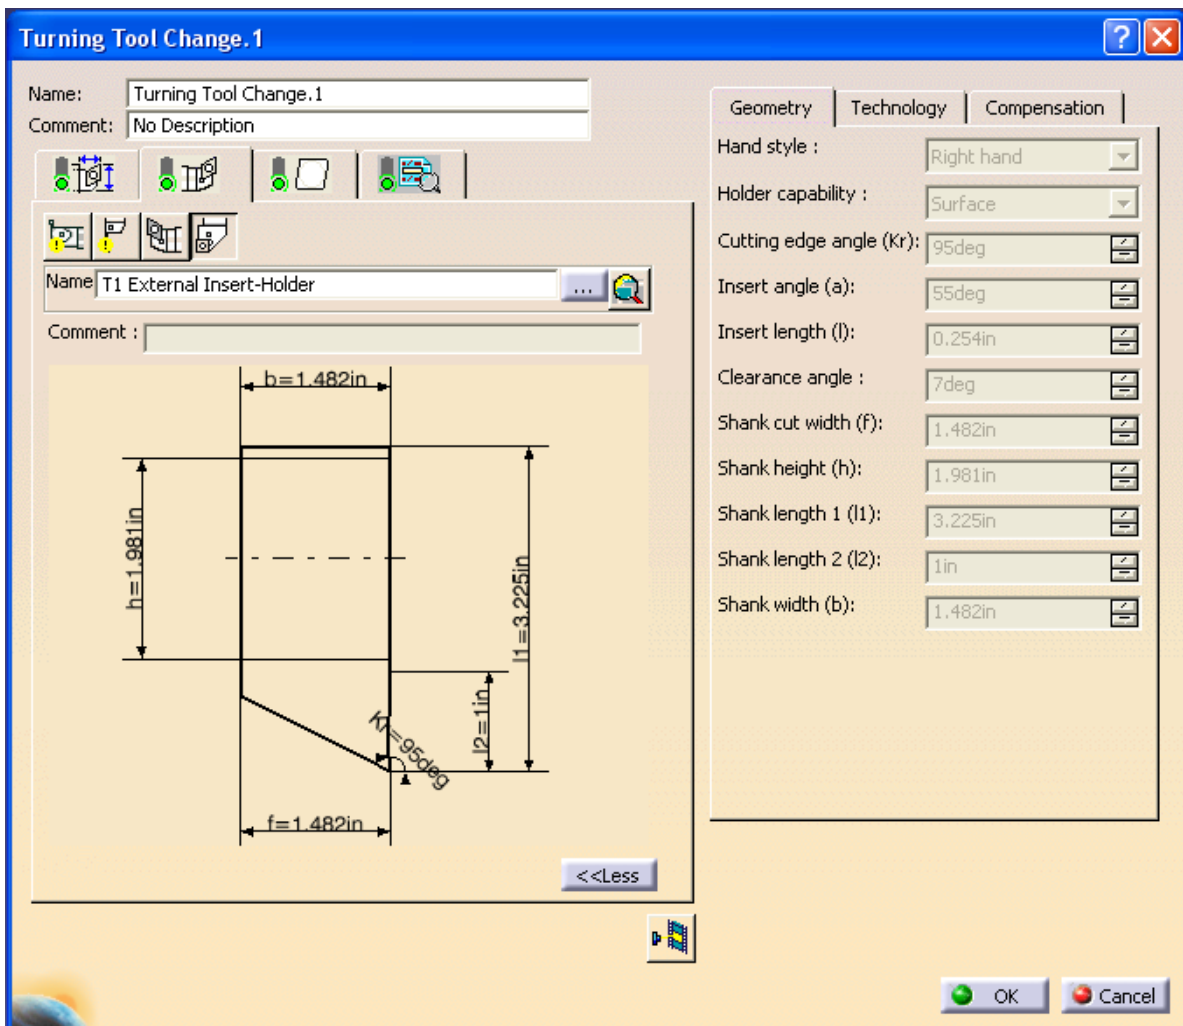
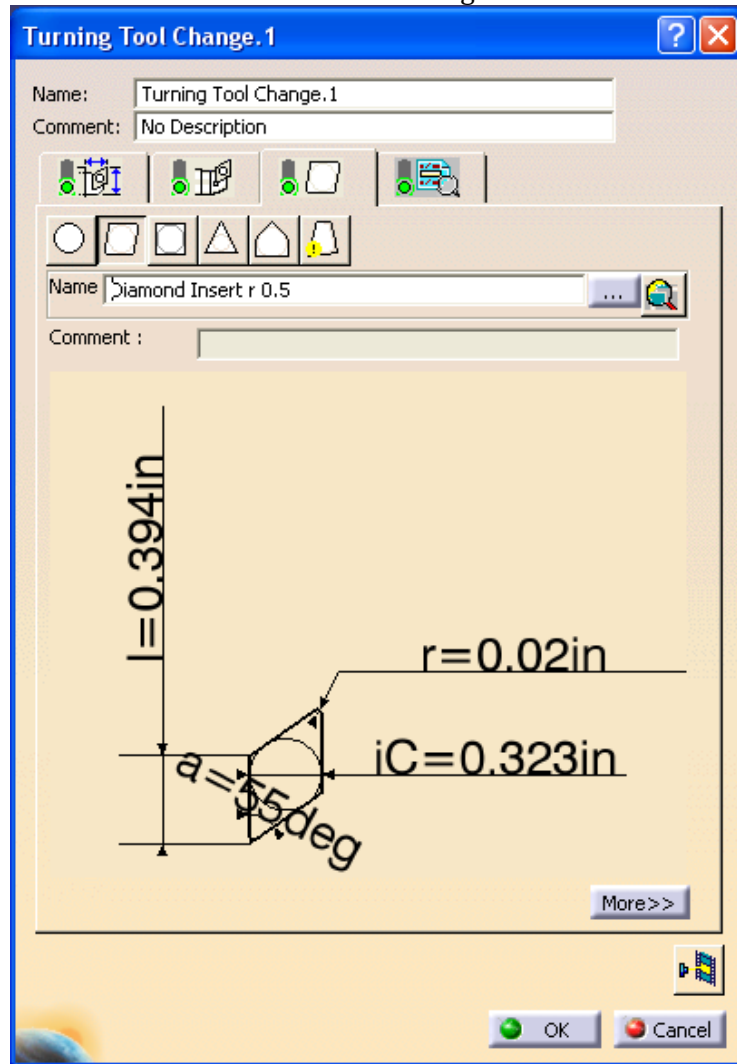

Figure 6. Tool dimensions.
Figure 7. Diamond cutting tool dimensions
- i. Arrange your tool to look like figure 6
- i. Select Diamond Insert and change the numbers to look like figure 7
- a. The tool should already be set up from the last operation but check that the values match figure 6 and figure 7